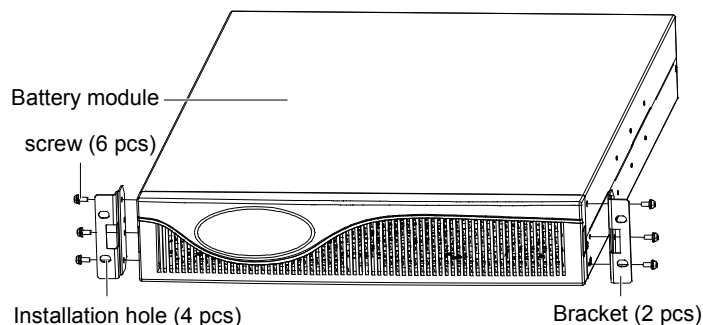

Figure 2-4 Installing bracket
1. Take out two brackets and six M4 * 10 screws from the accessories, and fix the brackets onto the battery module using the screws through installation holes, as shown in Figure 2-4.